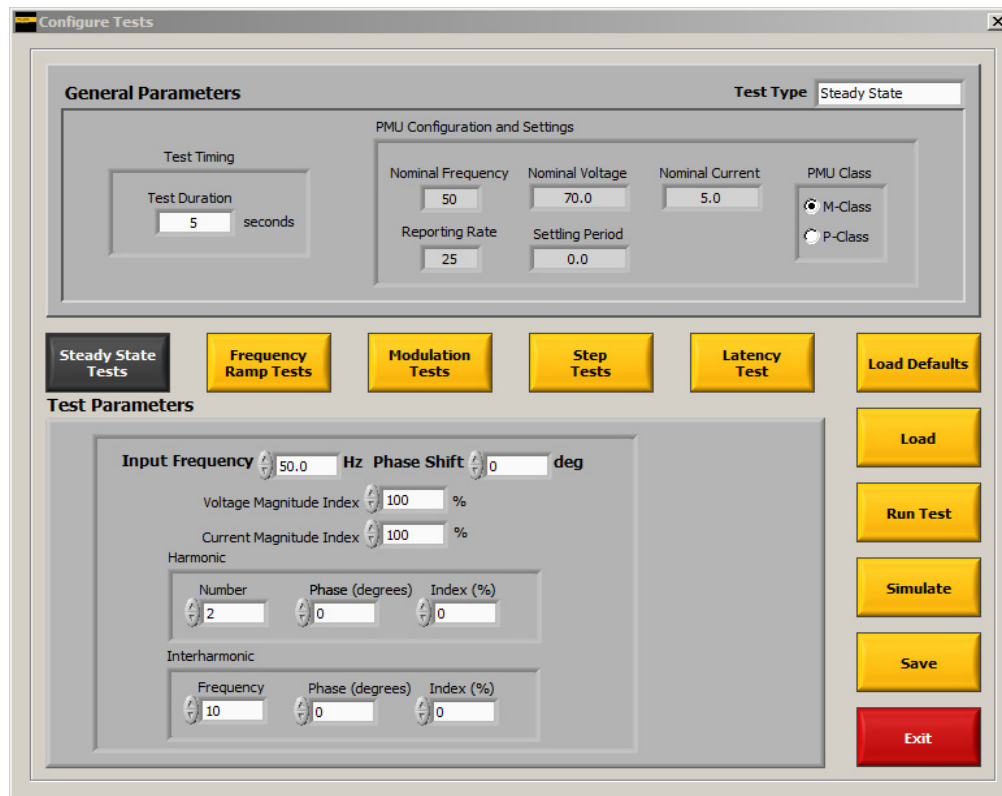

Figure 4-6. Test Menu
4. Click on **Run Test** to run a default steady state test on the connected UUT as shown in Figure 4-6.